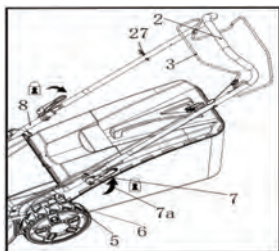

Fig. 2
4. Secure the upper handle bar (2) with the lower handle bars (8) by folding up the clamp levers (7) towards the handle bars (2, 8). If the clamp lever (7) cannot be folded, loosen it and fold again. If it is too loose, firstly hold the locking nut (7a) steady with a suitable spanner (size: 13 mm) , then tighten it by turning the clamp lever (7) clockwise (Fig. 2).
5. Make sure that the self-propelling wire (5) and the brake wire (6) run on the upper side of the handle bars (2, 8).
6. Make sure that the pre-assembled hook for recoil start handle (26) rest on your right-hand side (when viewed from operator's position).